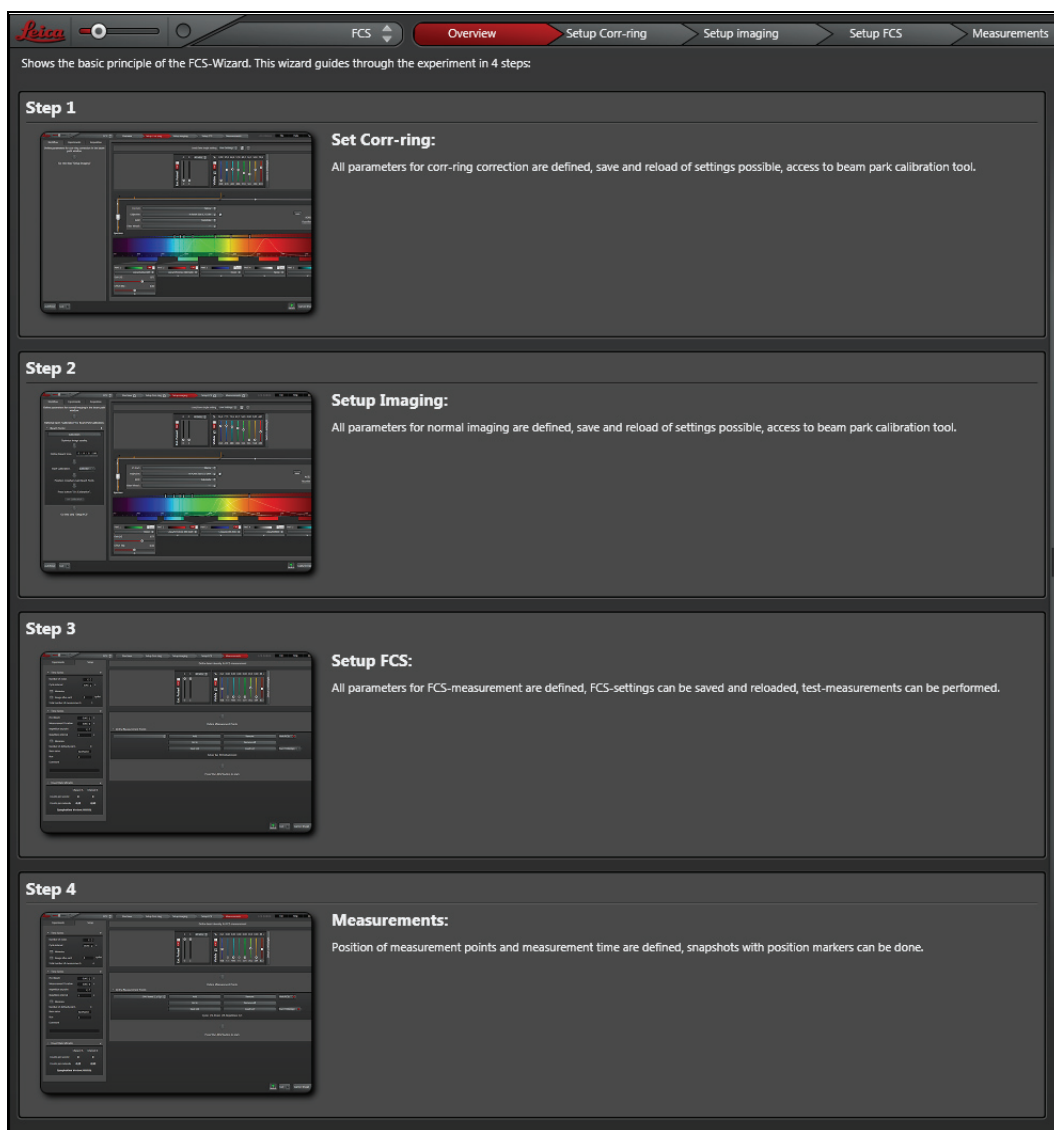

Figure 90: Overview of the SMD FCS Wizard steps
- **Overview** workstep: Here, you can get an overview of the different steps within the Wizard (**Figure 90**).